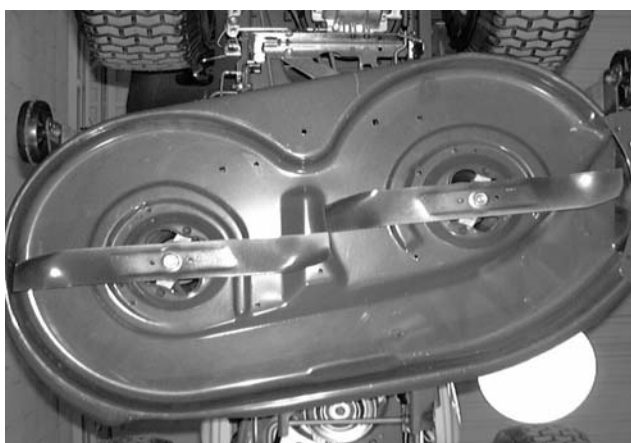

Figure 9-5.
1. Using a work glove or rag, rotate the blades until they are cutting edge tip to cutting edge tip (perpendicular) to the tractor. See Figure 9-5.